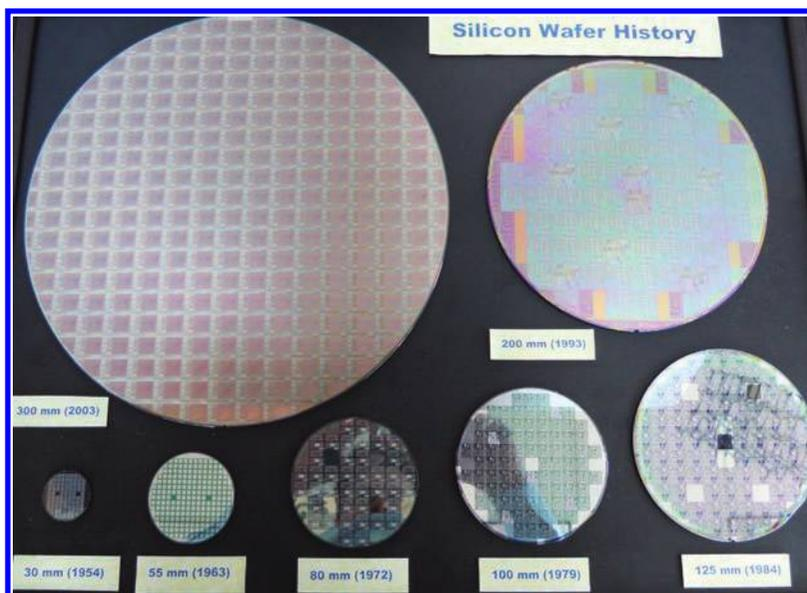

FIGURE 1.25
- Silicon has excellent mechanical properties, facilitating ease of handling during the micro/nanoelectronics fabrication process. For a 300 mm (12 in.) diameter silicon boule, for instance, this allows the silicon wafers to be cut to roughly 1 mm thickness (producing ultra-flat ^apotato chips,^o known as ^awafers^o in microelectronics jargon), maximizing the number of wafers per silicon boule. Think cost. This mechanical stability also minimizes wafer warpage as we fabricate transistors on it. Absolute flatness of the silicon wafer during exposure to extremely high temperatures (think 1000°C!) is vital. No Pringle's potato chips allowed! The evolution of silicon wafer size from 1957 (the earliest days of high-quality silicon boules) to the present is depicted in Figure 1.25.